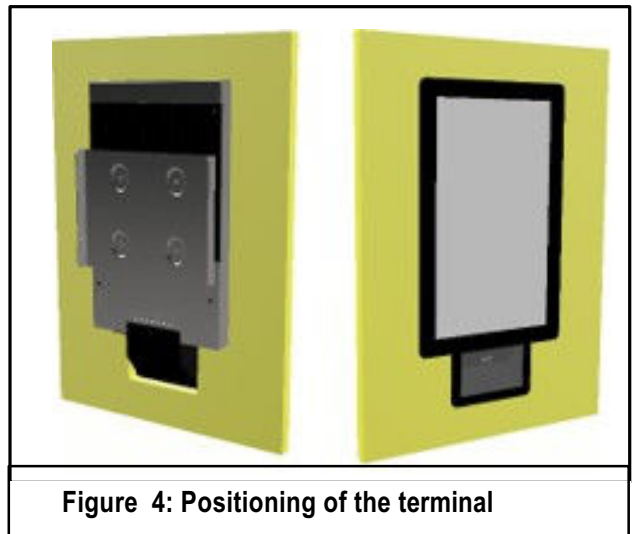
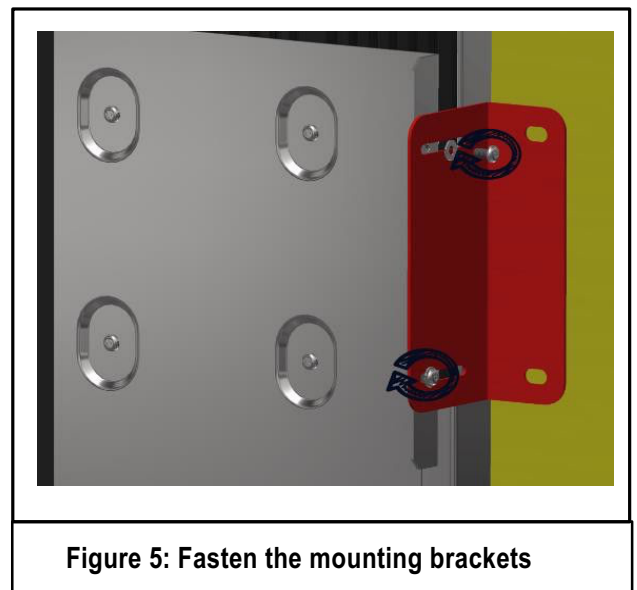

Figure 4: Positioning of the terminal
Figure 5: Fasten the mounting brackets
- (1) Push the device with the pre-assembled mounting plate into the cut-out (Fig. 4)
- (2) Secure the device to prevent from falling out (a second person may be required)
- (3) Fit the mounting brackets on the inside using the washers and screws supplied (washer 4.3 DIN 125, form A) (flat-head screw M4X8mm, DIN 7380, Torx with safety drive) (Fig. 5)
- (4) Now fasten the mounting brackets to the wall